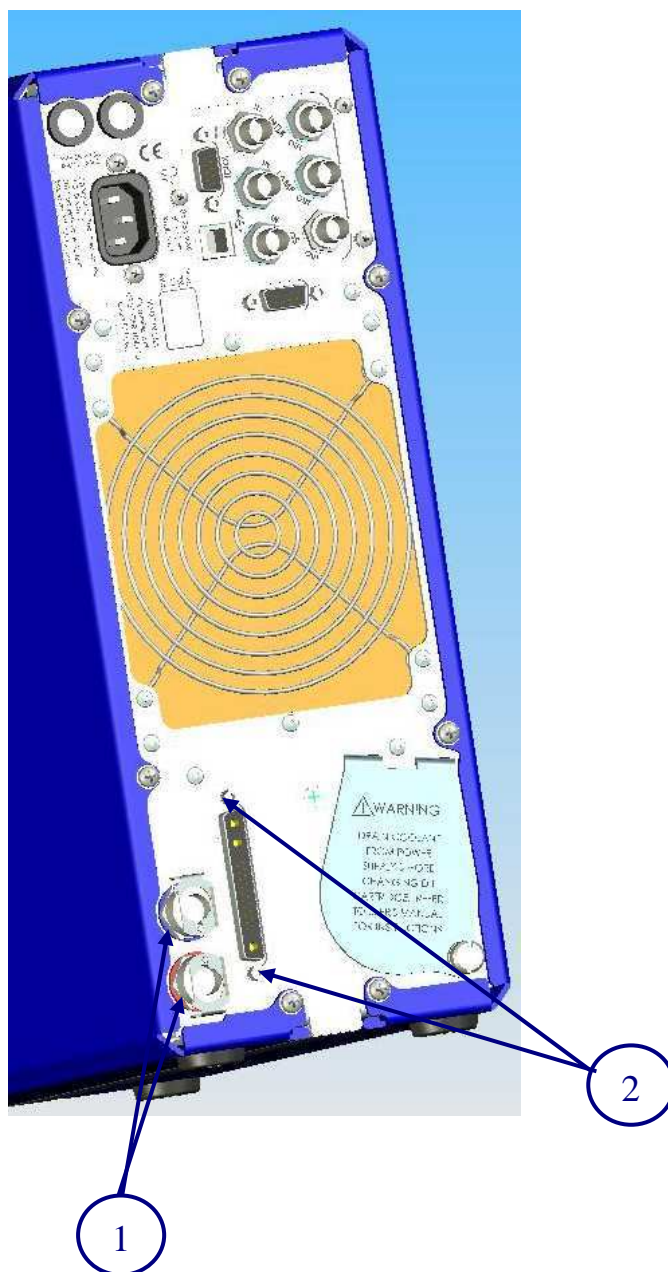
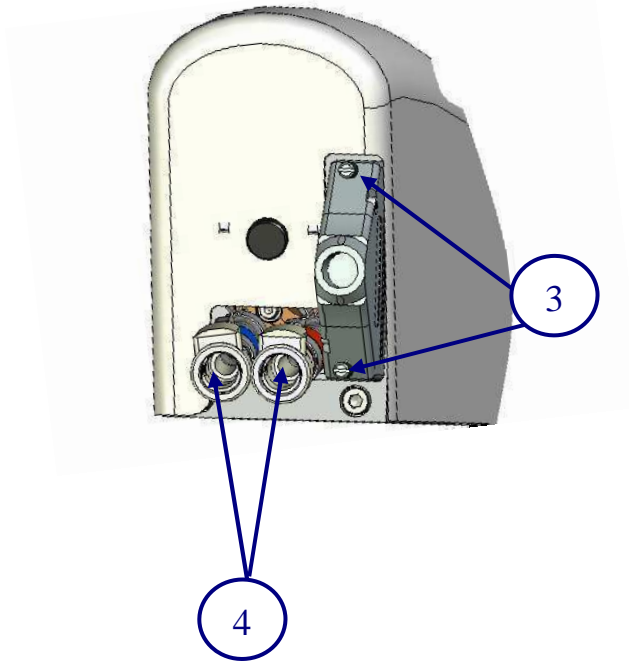

Figure II-1: ICE water and electronic connection on back panel
Figure II-2: laser head water and electronic connection
1. Plug the electrical connector (2 on Figure II-1) into the ICE (Integrated Cooler and Electronics). Take off the Brilliant EaZy Head cover, plug the electrical connector into the head and put the cover on (the connectors are keyed so that they may not be connected incorrectly) and **tighten** the connector cover screws (3 on figure II-2).
2. Plug the two umbilical coolant tubes on the ICE (1 on Figure II-1). Note that the coolant fittings are different at each end of the umbilical coolant tubes. The fittings without a shut-off in the end should plug into the Laser Head. Be sure there are no endcaps on the laser head coolant tubes.